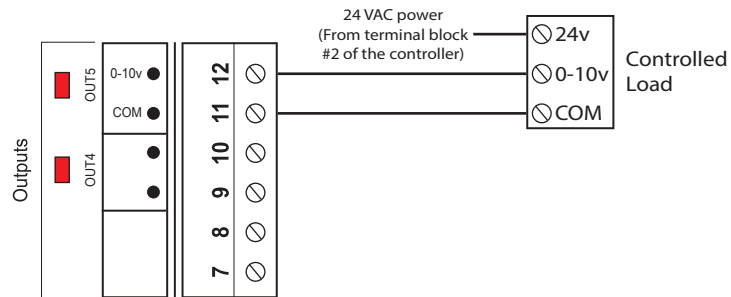

Figure 15 - Connecting the analog output (controller powered)
- 1) The C1000 powers the load and provides a control signal (see Figure 15)